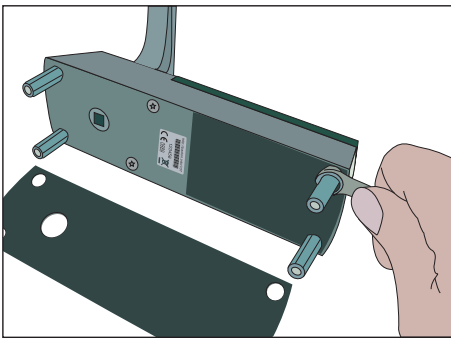

Fig 1
2. Remove the top two standoff screws - Fig 1.